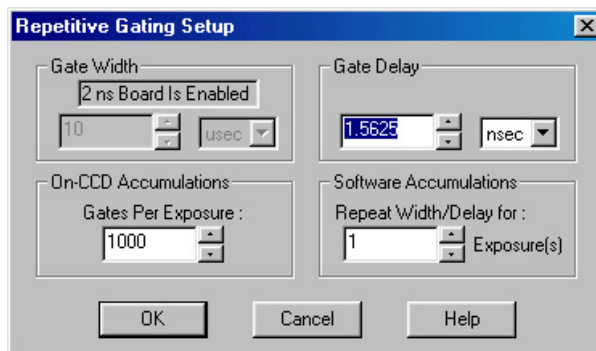

Figure 40. Repetitive Gating dialog
- After setting the trigger frequency, set the gating parameters. When the 500 ps option is enabled, you will see "2 ns Board Is Enabled" on the gating setup dialogs (for example, on the Repetitive Gating dialog in Figure 40).